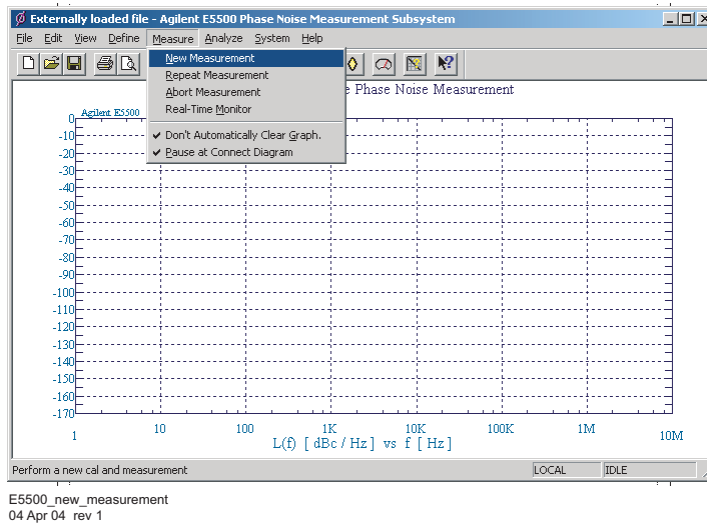

Figure 250 Selecting a new measurement
- 1 From the **Measurement** menu, choose **New Measurement**. See Figure 250.